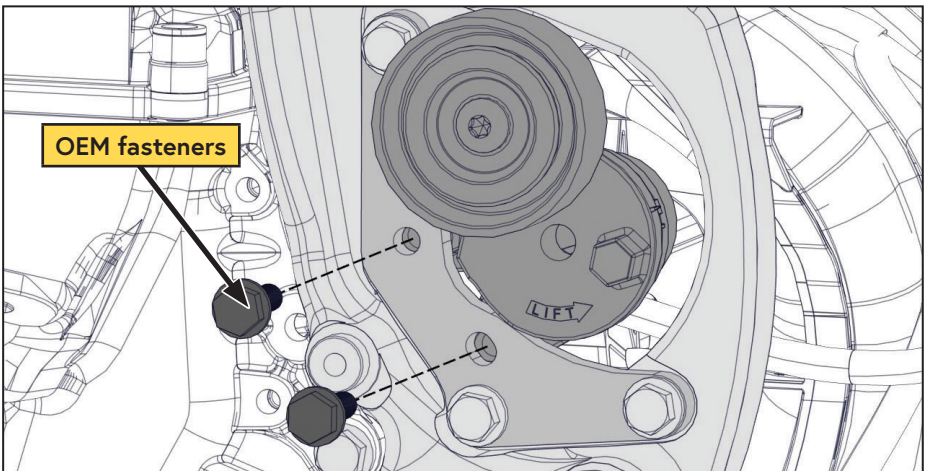

Figure 10 — Install tensioner onto bracket
- Using the OEM fasteners, install the OEM tensioner onto the tensioner bracket (Figure 10)